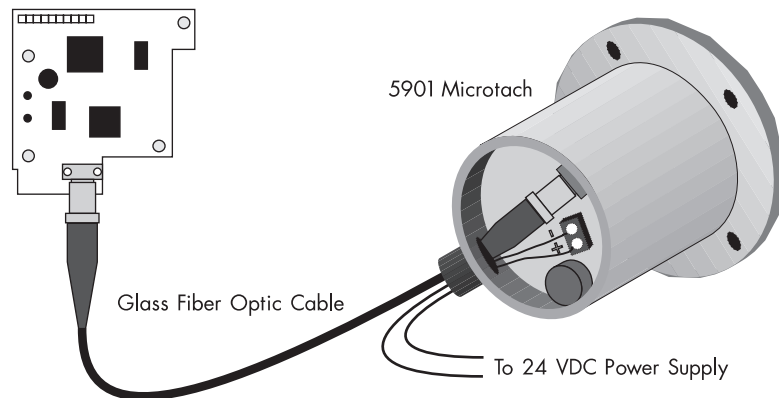

Figure A.7 - Connecting a 5901 Microtach to the 5901 Microtach Receiver Card
1. Connect the encoder as shown in Figure A.7.
1. Connect the A and B channels to terminals E3 and E5 as shown in Figure A.7.